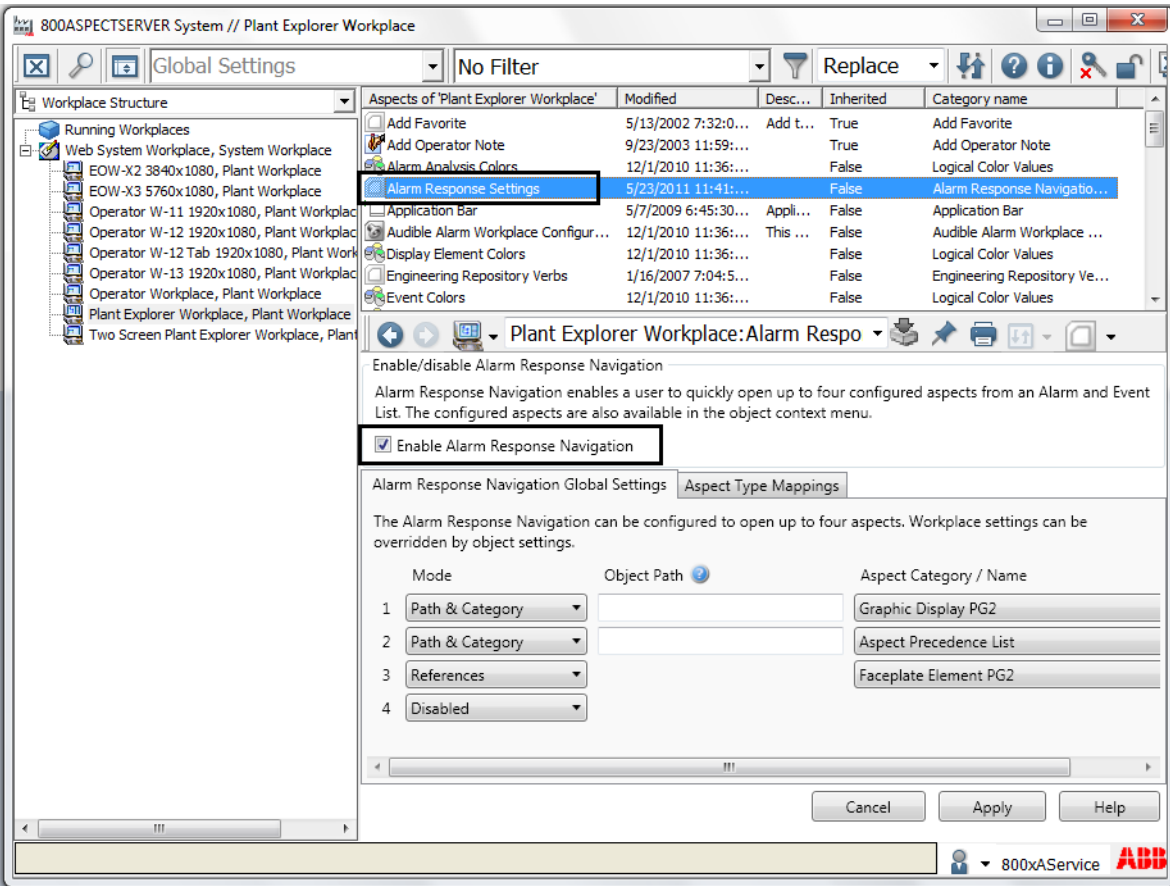

Figure 149. Enabling the Alarm Response Navigation
2. Select the **Enable Alarm Response Navigation** check box (See Figure 149).
By default, the Alarm Response Navigation feature is configured through the **Alarm Response Settings** aspect in **Workplace Structure > Web System Workplace > Plant Explorer Workplace** (see Figure 149).